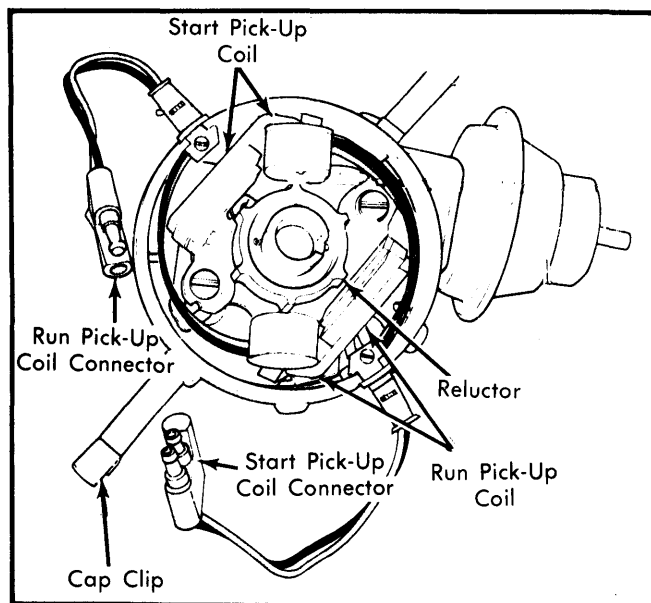

Fig. 3 View of Distributor, with Cap & Rotor Removed, Showing Location of Magnetic Pick-Up Coil Assembly
- **Start Pick-Up Coil** — Supplies a voltage signal to SCC which will cause the spark plugs to fire at a fixed amount of advance during cranking only. This coil is permanently positioned in distributor and the amount of advance will be determined by distributor position. See Fig. 3.
- **Run Pick-Up Coil** — Once engine begins to run, the start pick-up coil signal is by-passed and the run pick-up coil supplies advance information to the SCC. The SCC then modifies advance information to reflect engine operating conditions supplied by other sensors. See Fig. 3.